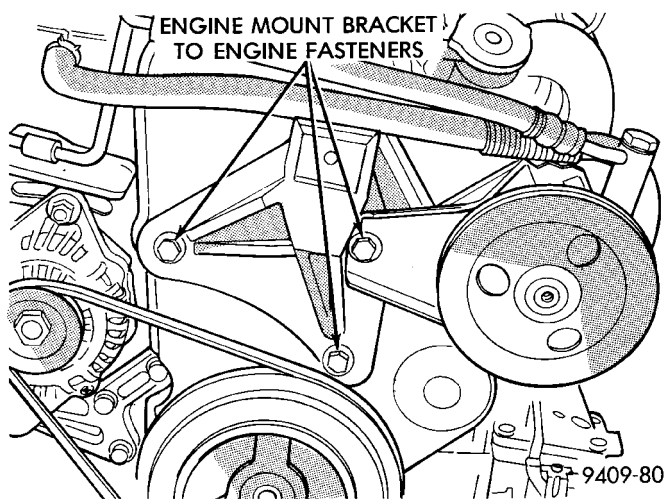

Fig. 45 Right Engine Mount Bracket
- (4) Lower vehicle and place a jack under engine.
- (5) Remove right engine mount. Refer to procedure outlined in this section.
- (6) Remove right engine mount bracket (Fig. 45).